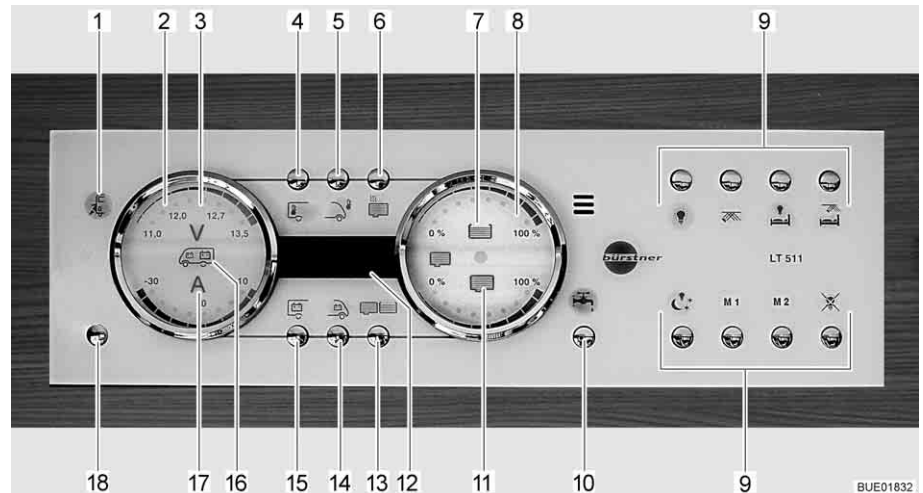

Fig. 118 Panel LT 511
The 230 V indicator lamp (Fig. 118,1) illuminates whenever line voltage is available at the transformer/rectifier input.
The 12 V main switch (Fig. 118,18) switches the panel and the 12 V power supply of the living area on and off.
- Briefly press the 12 V power supply button (Fig. 118,18). The 12 V living area power supply is switched on. The "12 V" indicator lights up.
- ▷ If, after switching on, the "11.0" LED of the volt indicator and the "V" volt symbol (Fig. 118,3) in the batteries gauge (Fig. 118,2) flash, the voltage of the living area battery is too low. Charge battery.
- ▷ If, after switching on, the "12 V" indicator and the "V" volt symbol (Fig. 118,3) flash three times, battery separation is activated. Deactivate battery separation.
- Briefly press the 12 V power supply button (Fig. 118,18). The 12 V living area power supply is switched off. The "12 V power supply" indicator goes out.
- Press button for living area battery (Fig. 118,15) and hold it down for approx. 10 seconds. The "V" volt symbol (Fig. 118,3) and the "12 V" indicator flash three times. The living area battery is disconnected from the 12 V power supply.
- Press the 12 V power supply button (Fig. 118,18) and hold it down for approx. 5 seconds. The "V" volt symbol (Fig. 118,3) and the "12 V" indicator flash three times. The living area battery is connected to the 12 V power supply. The indicator lights up after approx. 5 seconds.
- Press button for living area battery (Fig. 118,15). The "V" volt symbol (Fig. 118,3) lights up. The "A" ampere symbol (Fig. 118,17) lights up as either white or red depending on whether it is charging or discharging. The battery voltage and electricity of the living area battery are displayed via the LEDs in the gauge.
- Press button for starter battery (Fig. 118,14). The "V" volt symbol (Fig. 118,3) lights up. The battery voltage of the starter battery is displayed using the LEDs in the gauge.
- Press tanks button (Fig. 118,13). The water tank (Fig. 118,7) and waste water tank (Fig. 118,11) symbols light up. The fill levels of the water tank (upper scale) and of the waste water tank (lower scale) are indicated using the LEDs in the gauge.
Tank alarm The water tank symbol (Fig. 118,7) or waste water tank symbol (Fig. 118,11) flashes when the water tank is empty or the waste water tank is full.
The internal and external temperatures can be indicated using the digital display (Fig. 118,12).
Displays: ■ Press the button for the internal temperature (Fig. 118,4). The internal temperature is displayed.
■ Press external temperature button (Fig. 118,5). The external temperature is displayed.
The water pump can be turned on and off using the water pump button (Fig. 118,10).
Switching on: ■ Press the water pump button (Fig. 118,10). The symbol lights up.
Switching off: ■ Press the water pump button (Fig. 118,10). The symbol goes out.